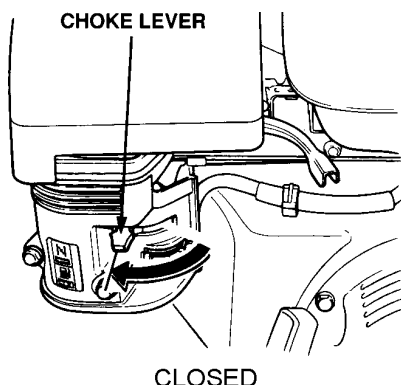

Figure 12. Choke Lever (Closed)
7. If the engine has started, slowly return the choke lever (Figure 12) to the **CLOSED** position. If the engine has not started repeat steps 1 through 6.